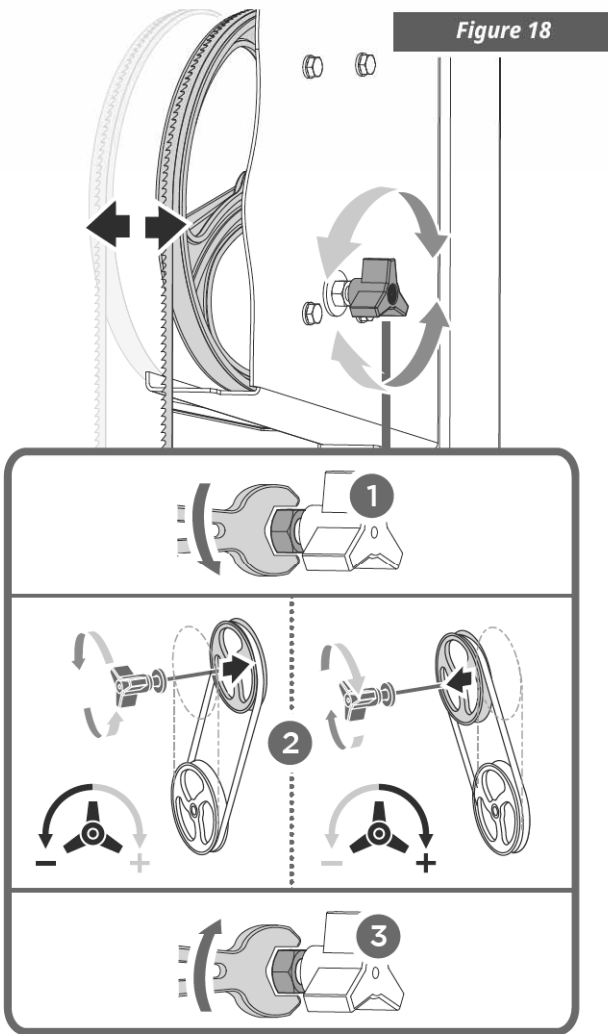

Figure 18
3. Tighten locking nut. (See Figure 18)